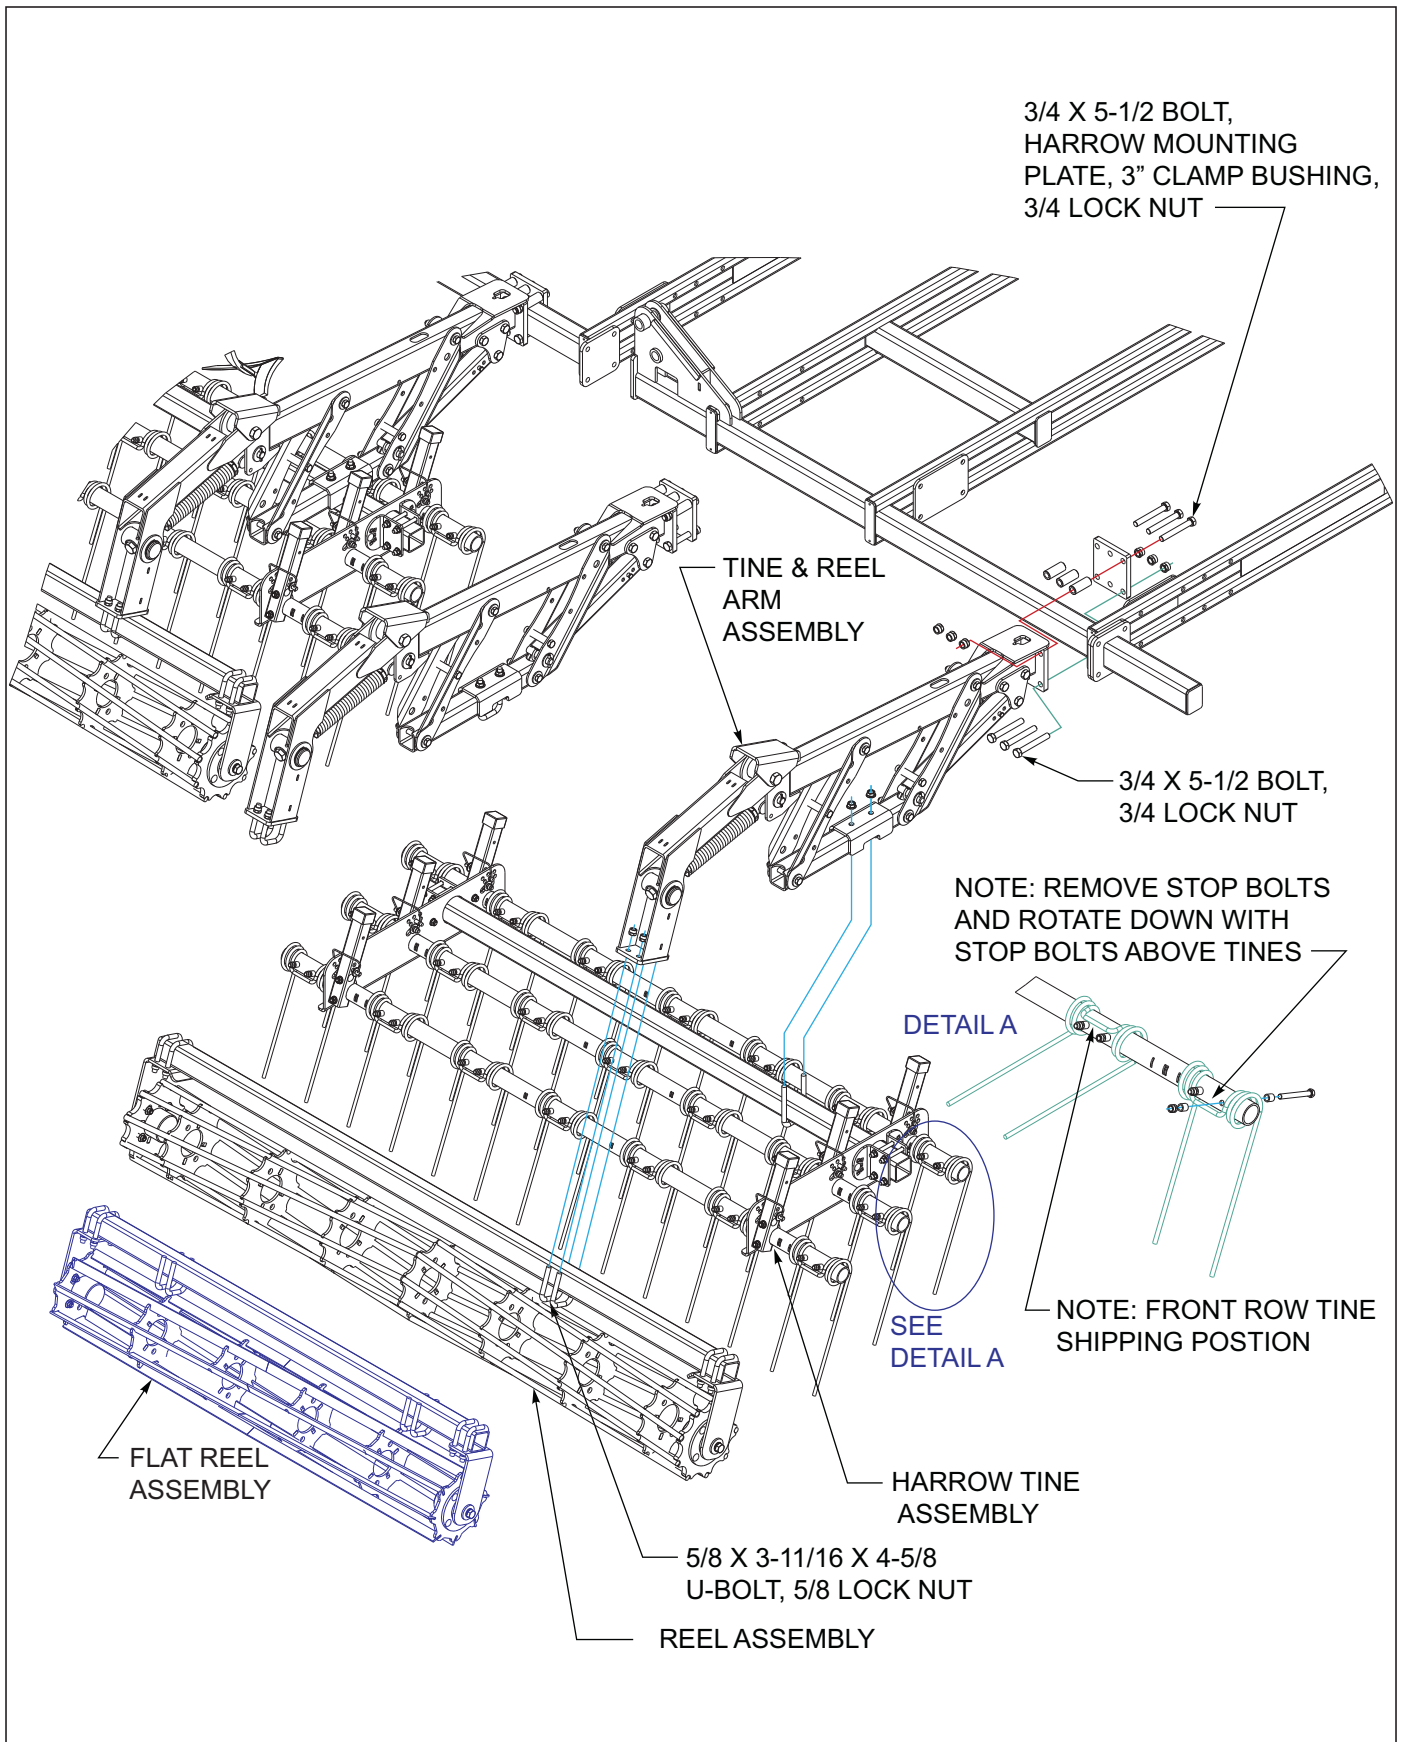

Figure 3-32: 3 Row Coil Tine and Reel Harrow Installation
1. Attach the tine/reel arm assemblies to the rear tube of the center and wing frames using harrow mounting plates, 3/4 x 5-1/2 bolts, clamp bushings and 3/4 lock nuts **See Figures 3-32**. Clamp bushings are installed on the top mounting bolts.